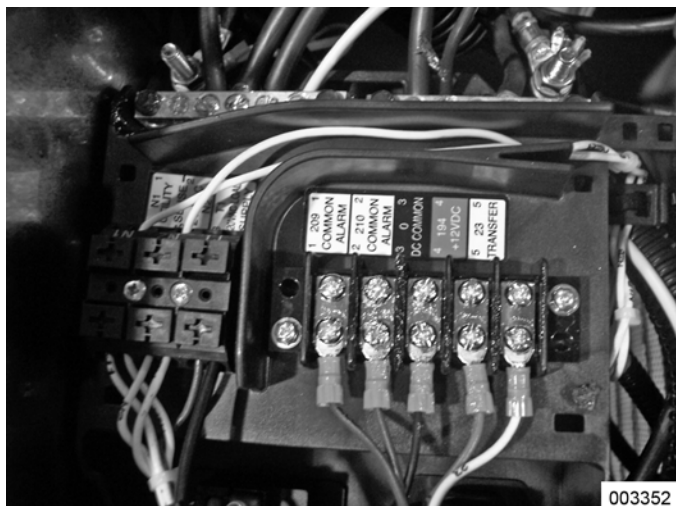

Figure 5-10.
6. **Remove Control Wires:** See Figure 5-10. Remove Wires N1, N2, T1, 0, 194, 23, GFCI Outlet, and unit status lights from the control box.